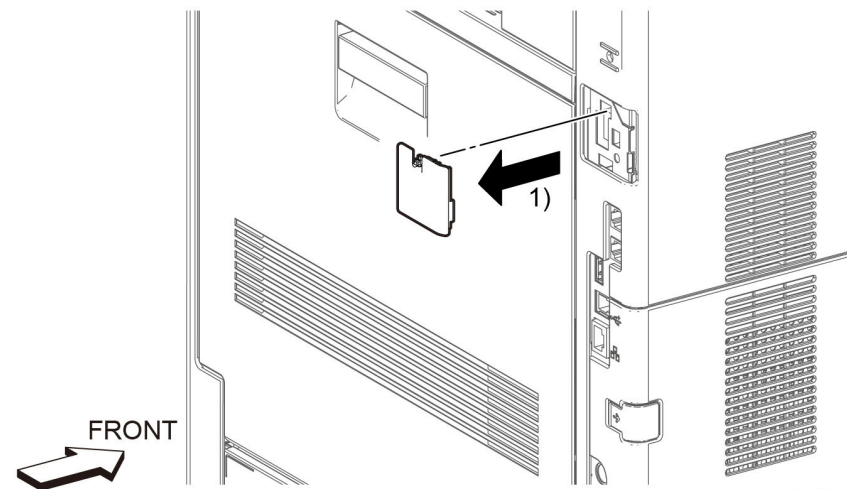

Figure 1 WIFI cap removal
1. Release the hook, then remove the WIFI cap, Figure 1.